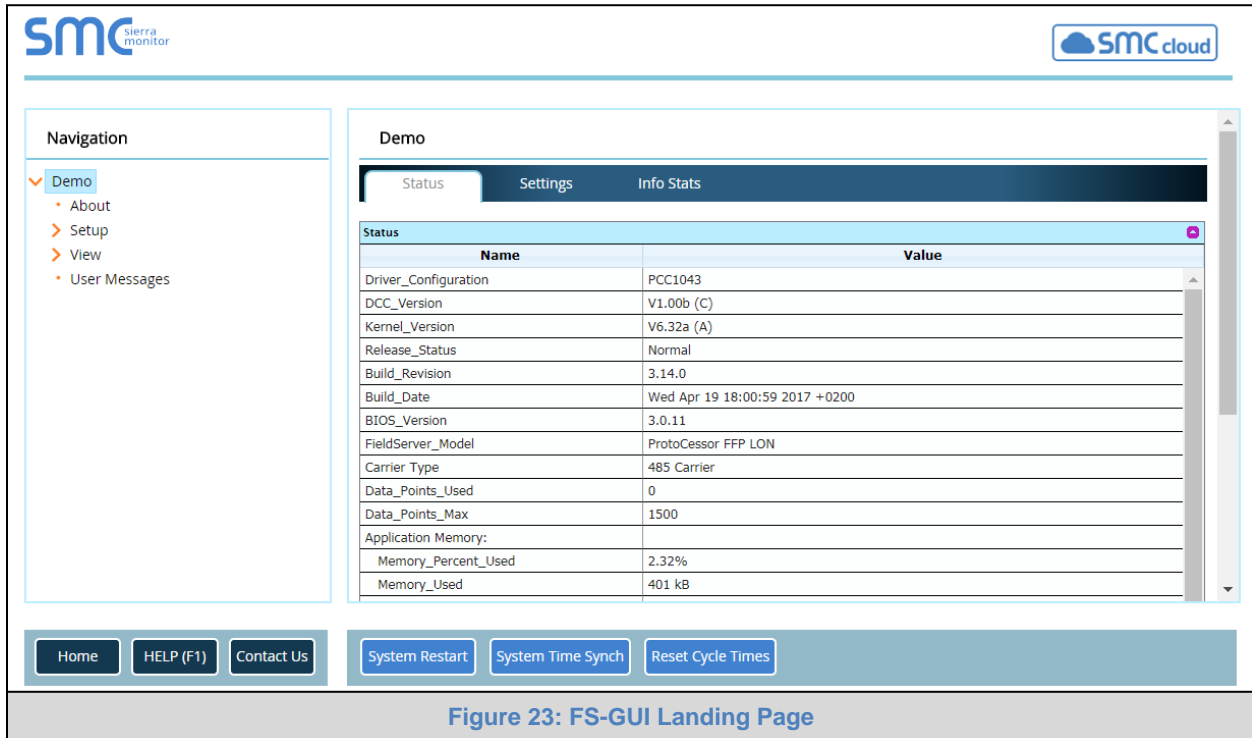

Figure 23: FS-GUI Landing Page
**NOTE:** The SMC Cloud button  (see Figure 23) allows users to connect to the SMC Cloud, MSA Safety’s device cloud solution for IIoT. The SMC Cloud enables secure remote connection to field devices through a FieldServer and its local applications for configuration, management, maintenance. For more information about the SMC Cloud, refer to the SMC Cloud Start-up Guide.
The SMC Cloud button  (see Figure 23) allows users to connect to the SMC Cloud, MSA Safety’s device cloud solution for IIoT. The SMC Cloud enables secure remote connection to field devices through a FieldServer and its local applications for configuration, management, maintenance. For more information about the SMC Cloud, refer to the SMC Cloud Start-up Guide.